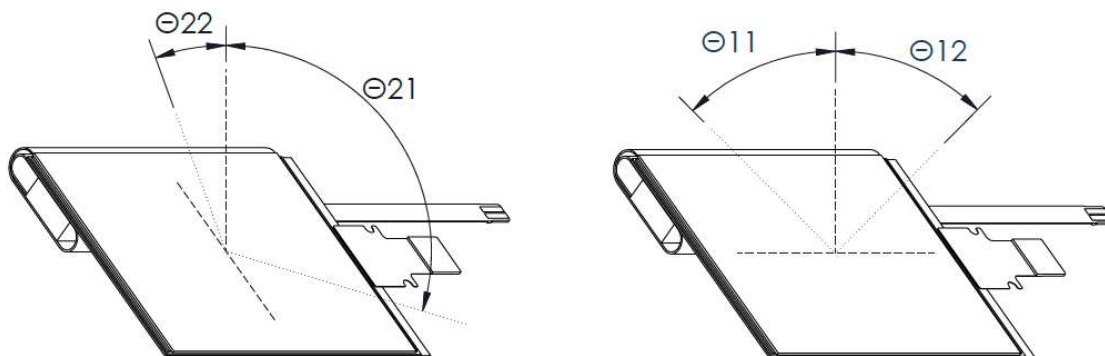

Figure 3. Definition of viewing angle.
Brightness (L) is the average measured luminance of 9 testing regions (Section 6, Fig. 3) evenly distributed throughout the display.